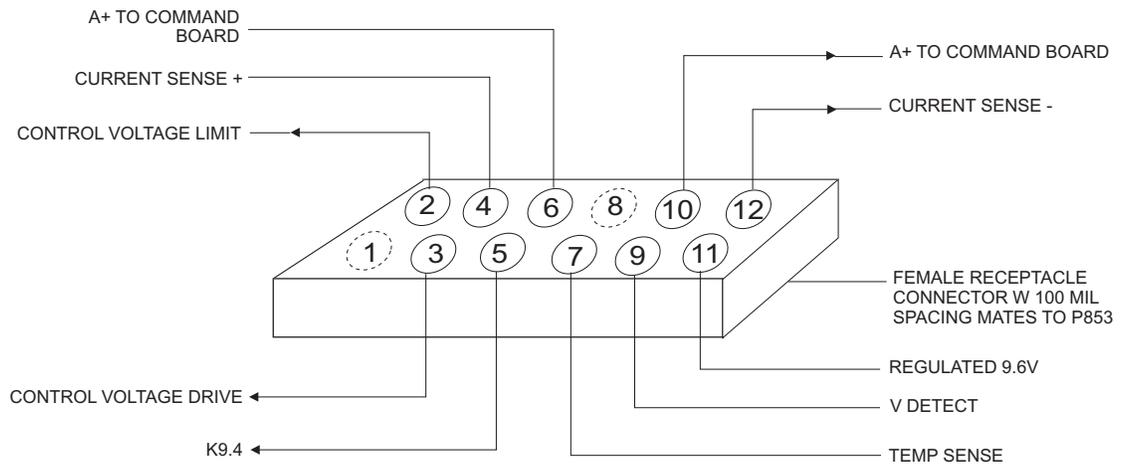

Figure 4-5. PA Test Adapter, 25/10 Watt Power Amplifier
2. Apply the input power and DC voltages indicated in Table 4-10 to the power amplifier assembly. To make the DC connections, use small spring-clips or make a test adapter similar to that shown in Figure 4-5.